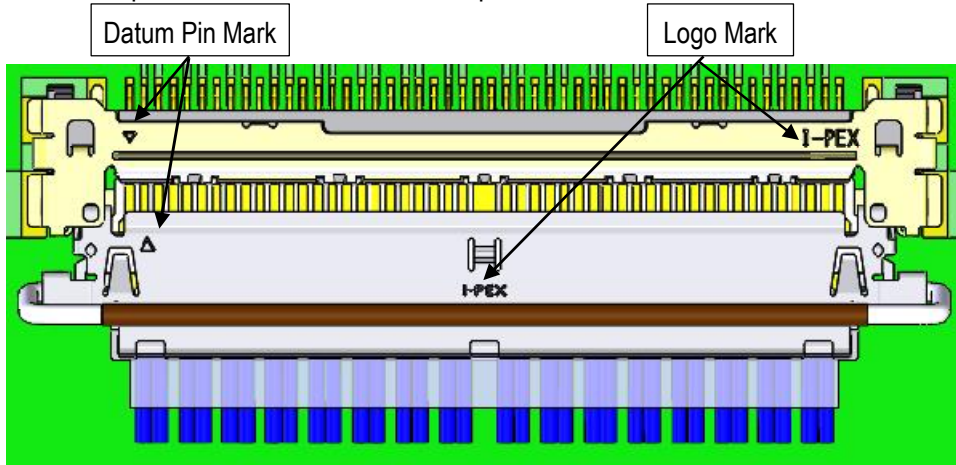

Fig. 1
1. Align the datum pin mark of paddle card harness and receptacle connector are matched as shown in Fig.1.